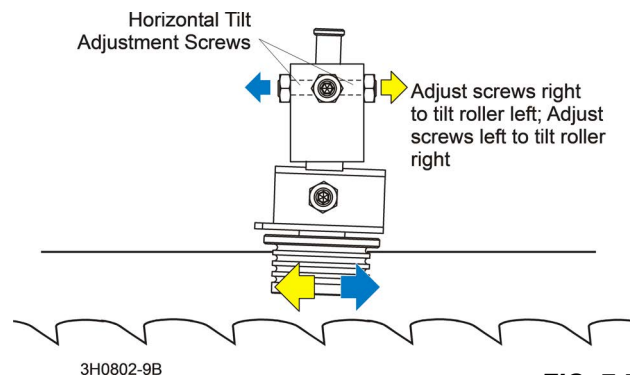

FIG. 7-7
2. Remove the clip from the blade guide alignment tool and place the tool against the face of the outer blade guide roller. **See Fig. 7-7.**
5. Loosen the jam nuts on the horizontal tilt adjustment screws. **See Fig. 7-7.**